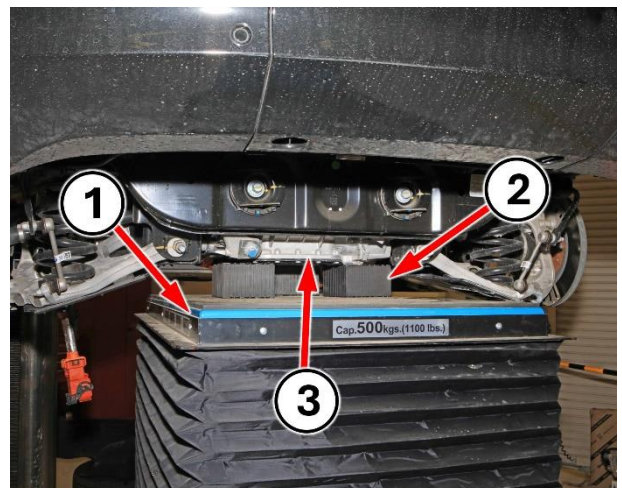

Figure 23 – Support Rear EDM
53. Position a lifting table under the rear EDM (Figure 23).
54. Arrange support blocks directly under the rear EDM (Figure 23).